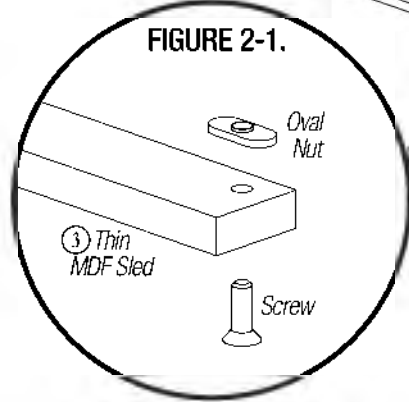

FIGURE 2-1.
- Place (6) Screws through the Thin MDF Sled ③ then thread the (6) Oval Nuts onto the end of each Screw. **FIGURE 2-1.**